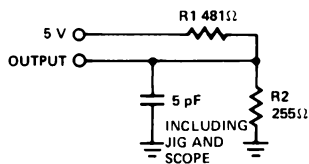

Figure 1b
- t_{HZOE} , t_{HZCS} and t_{HZWE} are tested with $C_L = 5$ pF as in Figure 1b. Transition is measured ± 500 mV from steady state voltage.